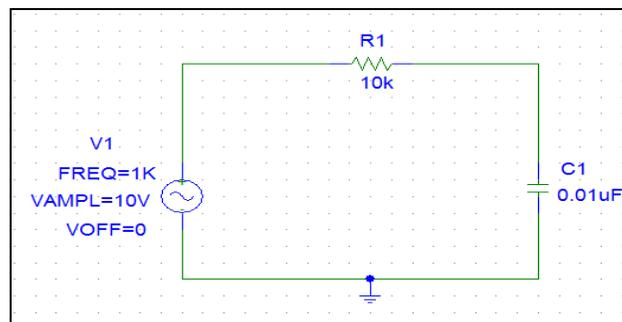

Figure 3.1
1. Draw the circuit as shown in figure 3.1